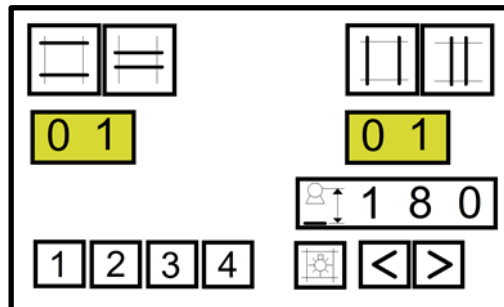

Fig.2
2. This menu (Fig.2) has the same function as that in Fig. 1, but without iris. To move to the next menu, touch the right arrow; touch the left arrow to go back.